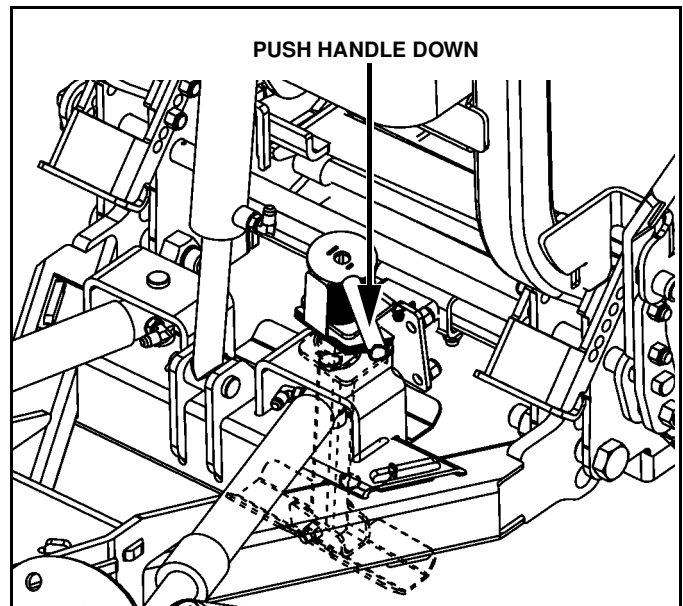

Figure 1-33
6. Remove the QuickJack™ locking pin and push the jackstand handle down to fully lower the foot to the ground. (See Figure 1-33).